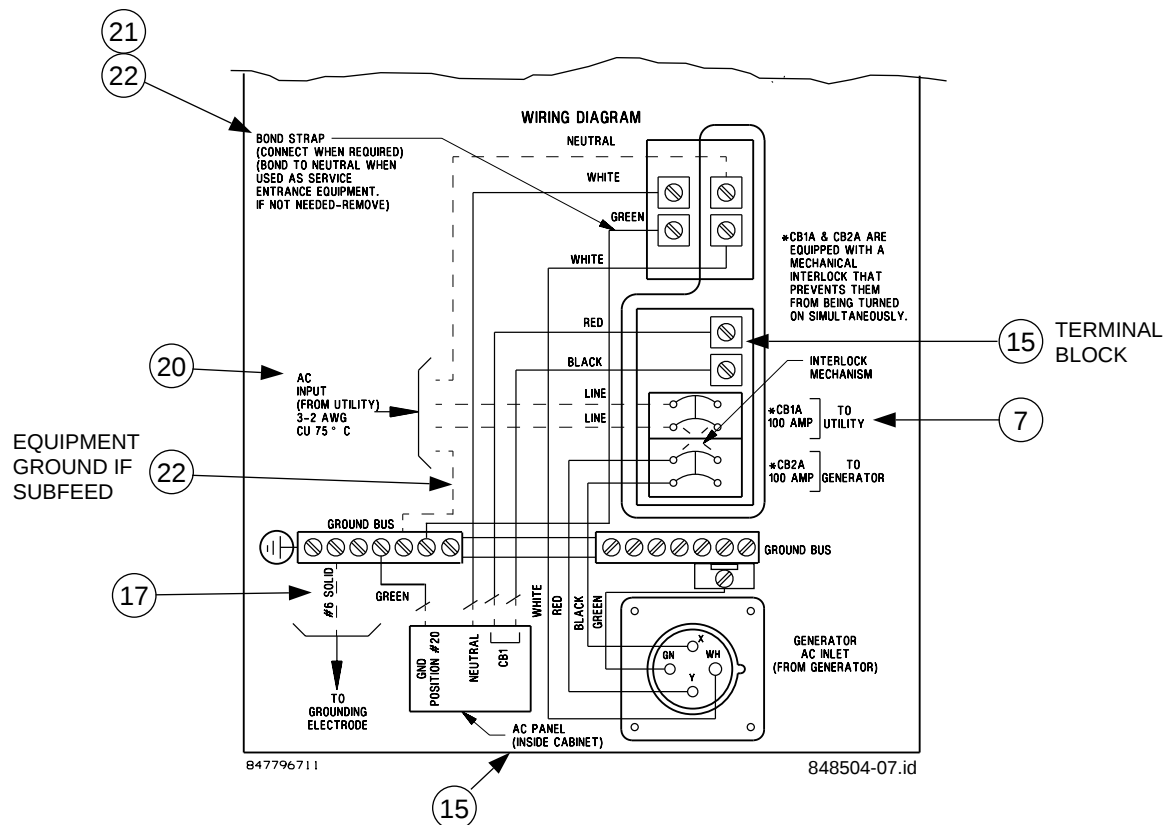
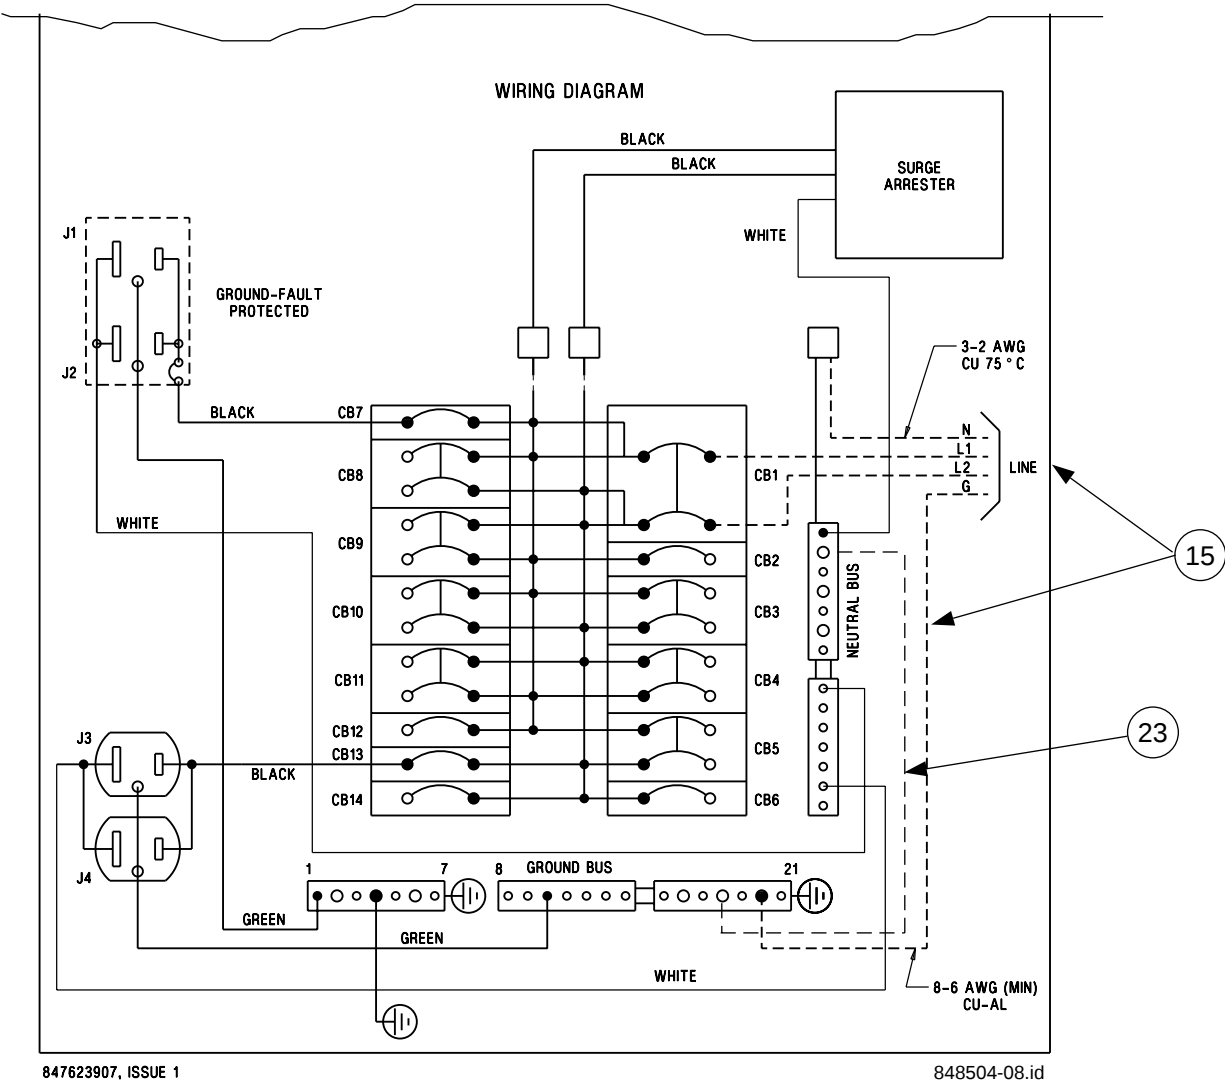
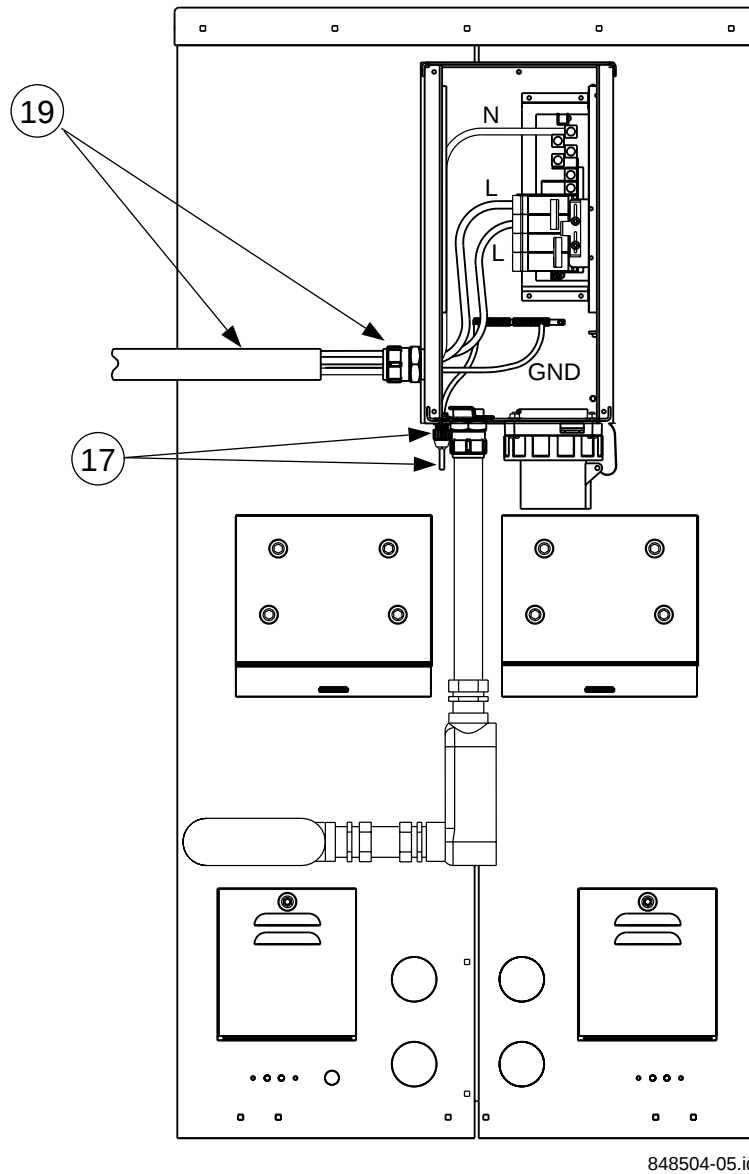

Figure 4. AC Generator Receptacle Schematic
Figure 8. AC Power Panel Schematic
Figure 9. AC Utility Wiring and Conduit Installation
STEP 7— Ensure the AC Generator Receptacle Assembly has been shipped with the AC Utility Breaker, CB1A, in the OFF position (Figure 4).
- STEP 15—** Refer to the AC Generator Receptacle schematic (Figure 4) and the AC Power Panel schematic (Figure 8) and connect the wires as shown. The red and black “hot” wires from the terminal block above CB1A, of the AC Generator Receptacle, should be connected to CB1 of the AC Power Panel. The white “neutral” wire should be connected to the neutral bus, and the green No. 6 ground wire should be connected to position No. 20 of the AC Power Panel ground bus (Figure 8).
- STEP 17—** Route the No. 6 AWG solid ground wire from the grounding electrode (not provided) through the black plastic fitting in the bottom of the AC Generator Receptacle Assembly to the second position on the left ground bus. Connect securely to the ground bus and tighten the black plastic fitting around the ground wire to ensure proper sealing (refer to Figure 9 and schematic in Figure 4).
STEP 19— Install the Utility conduit (not provided with the kit) through the compression fitting located on the lower left side of the AC generator receptacle assembly. Loosen, but do not remove the fitting. Insert the conduit through the fitting and tighten with a tool (Figure 9). Apply RTV silicone (provided with kit) around the fitting/conduit interface to provide a continuous seal. Route the utility wires through the conduit and connect as shown.
STEP 20— Connect the AC utility wiring to the neutral bus and Circuit breaker CB1A as shown in Figures 4 and 9.
STEP 21— For “Service Entrance Equipment”, locate the Green Bond Strap connected to the ground bus and tagged as “BOND STRAP” located in the AC Generator Receptacle Assembly. Connect this to the neutral bus as shown in Figure 4 and proceed to Step 23.
STEP 22— If this is not being installed as “Service Entrance Equipment”, a No. 6 AWG ground wire is required from the AC utility service and should be connected to the ground bus as shown in Figure 4. Remove the Green Bond Strap connected to the ground bus and tagged as “BONDSTRAP” and discard. Proceed to Step 23.
STEP 23— Remove and discard the Bond Strap located in the AC Power Panel located in the Power Cabinet (Figure 8).